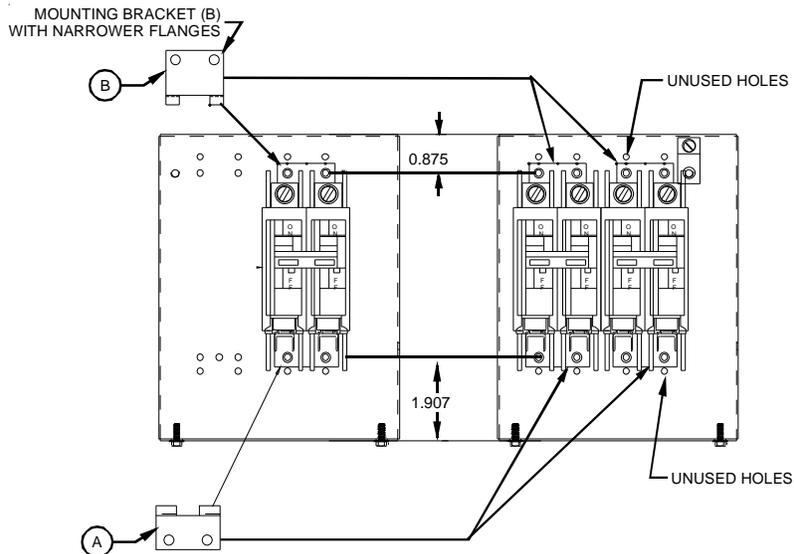

Figure 2
4. Unfasten the two # 10x $\frac{1}{2}$ " screws and remove mounting bracket (B) at the top of the breaker as shown in Figure 2. Slide the existing Siemens breaker off the bottom bracket and then slide the new Siemens breaker onto the bottom bracket. Reassemble mounting bracket (B) to the top of the breaker and refasten with the two # 10x $\frac{1}{2}$ " screws.
6. Relocate mounting bracket (A) at dimension (1.907") from the bottom of the circuit breaker plate as shown in Figure 2 and fasten with two of the # 10x $\frac{1}{2}$ " screws that were previously removed in Step 5. Slide the Siemens circuit breaker onto the bottom bracket flanges. Next, insert the mounting bracket (B) that was provided in the kit at dimension (.875") from the top of the circuit breaker plate as shown in Figure 2 and fasten with two of the # 10x $\frac{1}{2}$ " screws that were previously removed in Step 5.